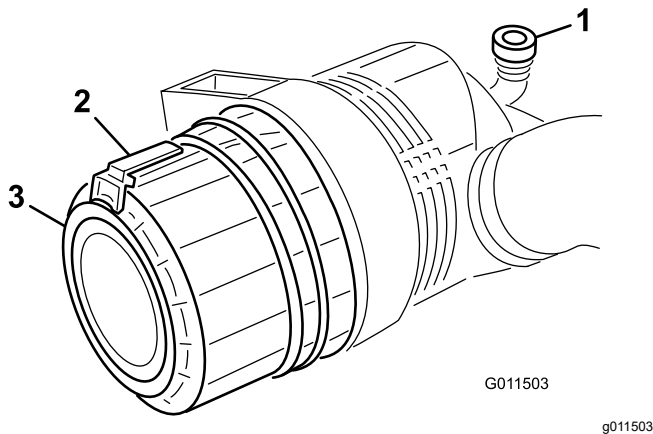

Figure 70
1. Pull the latch outward and rotate the air cleaner cover counterclockwise (Figure 70).